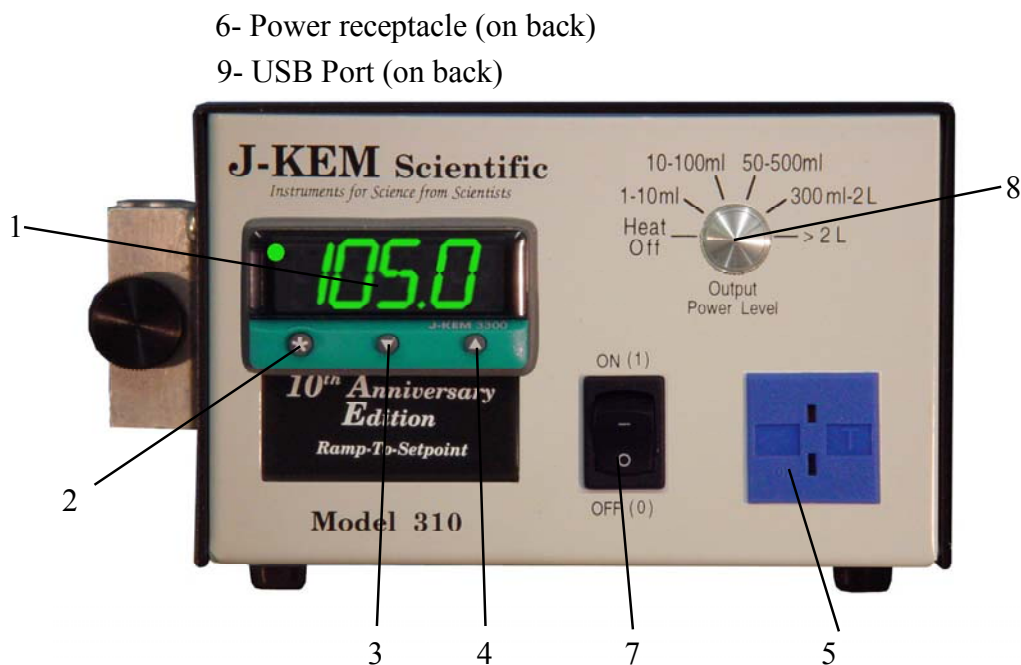

Figure 1
3.4 Temperature Sensor Input. Every controller is fitted with a specific *type* of thermocouple input and can only be used with a thermocouple of the same type. For the correct temperature to be displayed, the thermocouple type must match the receptacle type on the front of the controller (Figure 1; # 5). All thermocouples are color coded to show their type (Blue = type T; Yellow = type K; Black = type J). The color of the thermocouple plug must match the color of the receptacle on the front of the controller. If the thermocouple is broken or becomes unplugged, the error message "**inPt FAiL**" blinks in the temperature meter display and the controller stops heating.